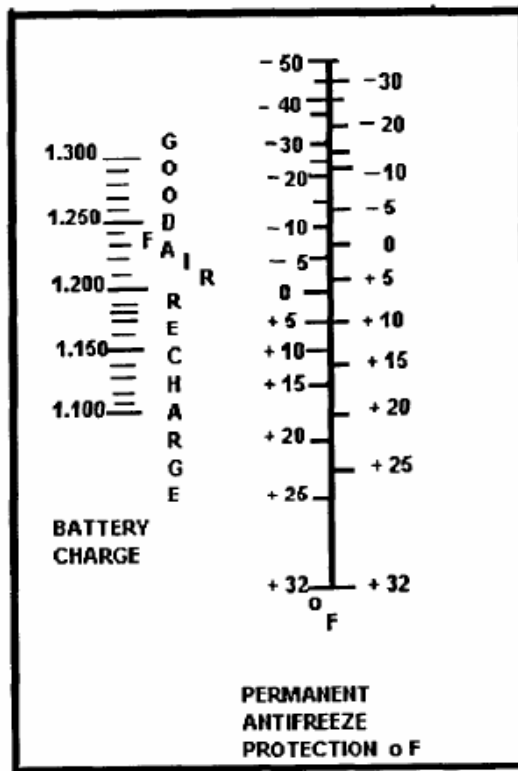

Figure 3-3
- (7) The electrolyte sample will divide the rectangle into an area of light and an area of shadow. Read the scale (Figure 3-3) where the light and shadow meet. The acceptable full charge and minimum charge specific gravity limits shall be as follows: